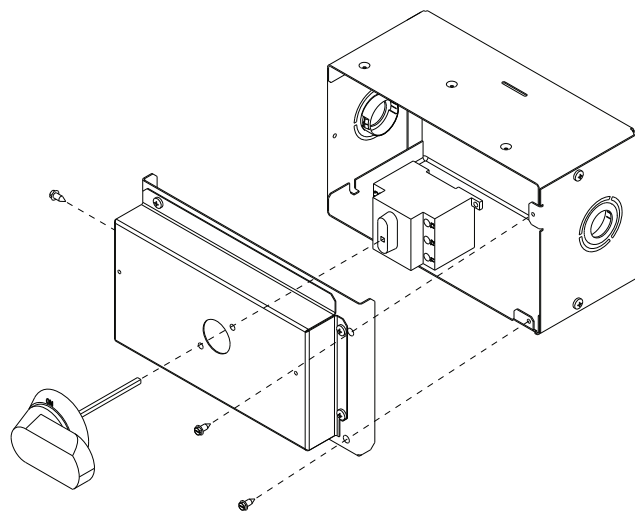

Fig. 36 — Handle and Shaft Assembly for NFD
2. Remove (3) cap head screws that secure the NFD enclosure front cover – (2) on the face of the cover and (1) on the left side cover. See Fig. 36.
10. Secure the handle to the painted cover with (2) screws and lock washers supplied.
11. Engaging the shaft into the handle socket, re-install (3) cap head screws on the front cover.
A unit-mounted transformer is factory-installed to stepdown the main power supply voltage to the unit to 115-v at the duplex receptacle. This option also includes a manual switch with fuse, located in a utility box and mounted on a bracket behind the convenience outlet; access is through the unit’s control box access panel. See Fig. 36.